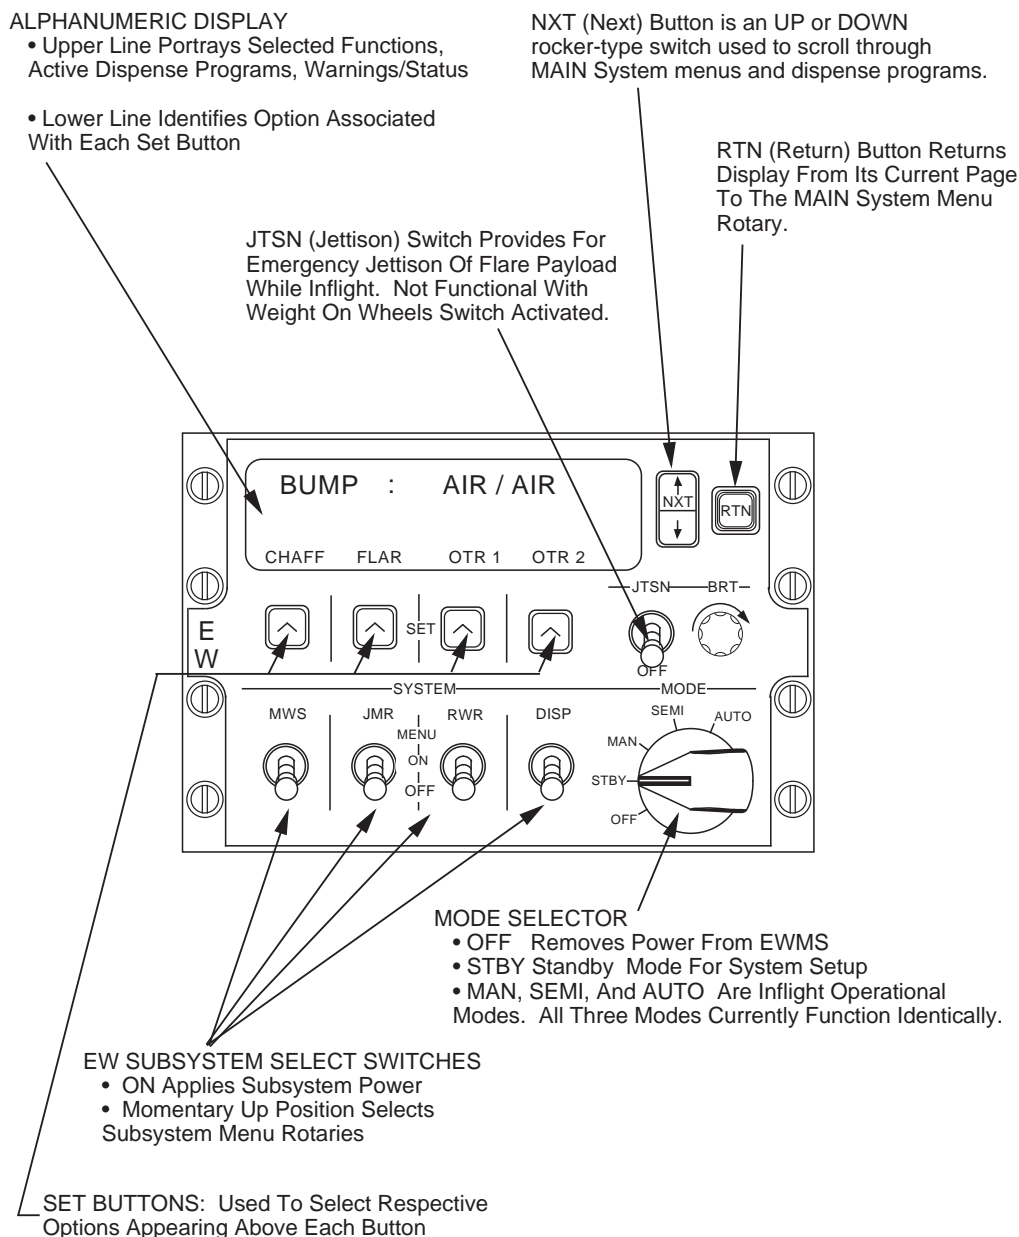

Figure 7-2 EWMU Switch Functions.
**EWMU Controls and Functions.** The EWMU has one 5-position rotary knob, a brightness control rheostat, 6 press-to-activate buttons, 5 toggle switches, and a two line, 16 character alphanumeric display that provide required EWMS control functions. The EWMU switches are discussed below and shown in Figure 7-2.
**Mission Data File (MDF).** MDF is an EWMS-unique software file used to preprogram EW suite hardware configurations and option settings. The MDF consists of nine sections and is constructed as part of the pilots normal mission planning process using the AFMSS or Personal Computer (PC) mission planning system. The mission planning data is placed on the DTC, taken to the aircraft, and loaded into the EWMS subsystems hardware. Typically, the pilot accesses and reviews the preprogrammed data as part of his aircraft in-cockpit preflight procedure to ensure that the proper selections have been established.